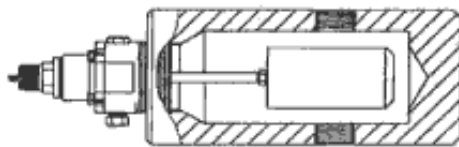
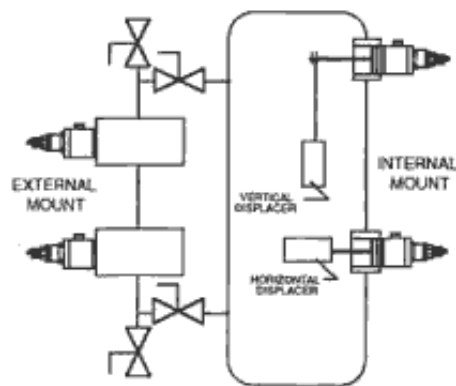

FIGURE 1
FIGURE 2
The K-Dyne, Inc. electric version of the Model L80 is a 2" NPT mounted liquid level switch. It is typically mounted in a K-Dyne Model C80 cage shown in the figure 1 for external bridle mounting or may be internally mounted in a 2" NPT (F) connection. Both mounting configurations are shown in figure 2.
It is suggested that the Model L80 be installed in an external cage for maintenance and testing purposes. A recommended piping system for mounting an external cage to a vessel is shown in Figure 2. The valves above and below the cage are required for testing and maintenance purposes.
## 6.0 DISASSEMBLY (Refer to figures 1 & 3)